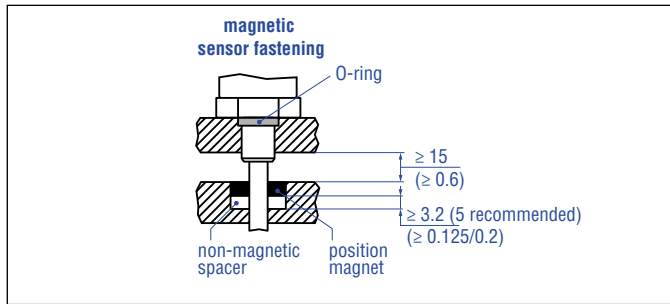
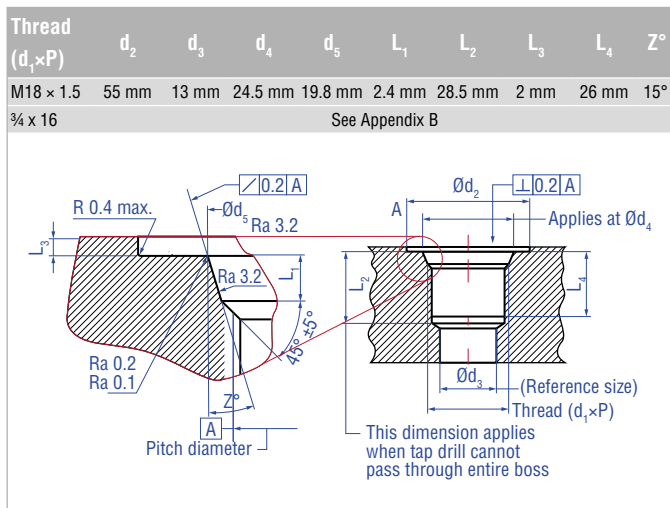

Fig. 15: Installation with non-magnetic material
Fig. 17: Notice for threaded flange M18x1.5 based on DIN ISO 6149-1
2. A sealing via an 15.3x2.2 mm O-ring (for metric thread flange) or 0.644" x 0.087" O-ring (for SAE thread flange) in the undercut (fig. 15). In this case, a screw hole based on ISO 6149-1 (fig. 17) must be provided.